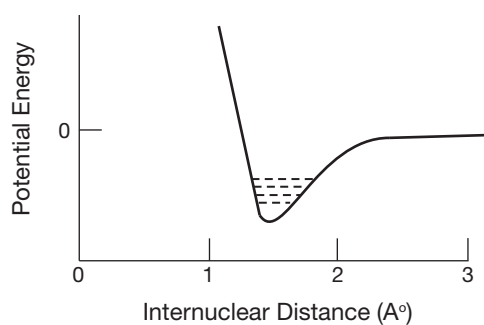

Figure 6. Potential energy diagram for HBr.
1. Bond formation is due to a decrease in potential energy when two atoms approach each other, as shown below for HBr (Figure 6). Label the point on the x -axis corresponding to the equilibrium H–Br bond length.
2. Vibrational energy levels are shown by means of dashed lines in Figure 6. Explain how the dashed lines illustrate the relationship between the absorption of infrared radiation and bond stretching.